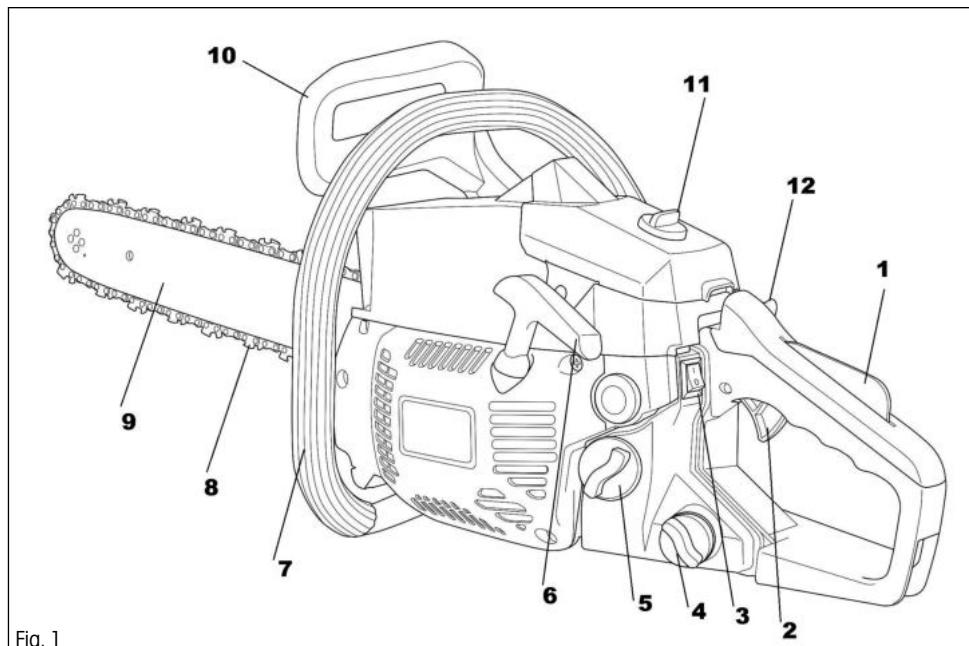

Fig. 1
Description of the power tool (see Fig. 1)
- The safety brake lever (Fig. 1 point 10) must be disengaged (pull it towards the top handle)
Chain brake (Fig. 1, point 10)
- ✿ Push the brake lever (Fig. 1, point 10) forward. The chain should stop immediately.